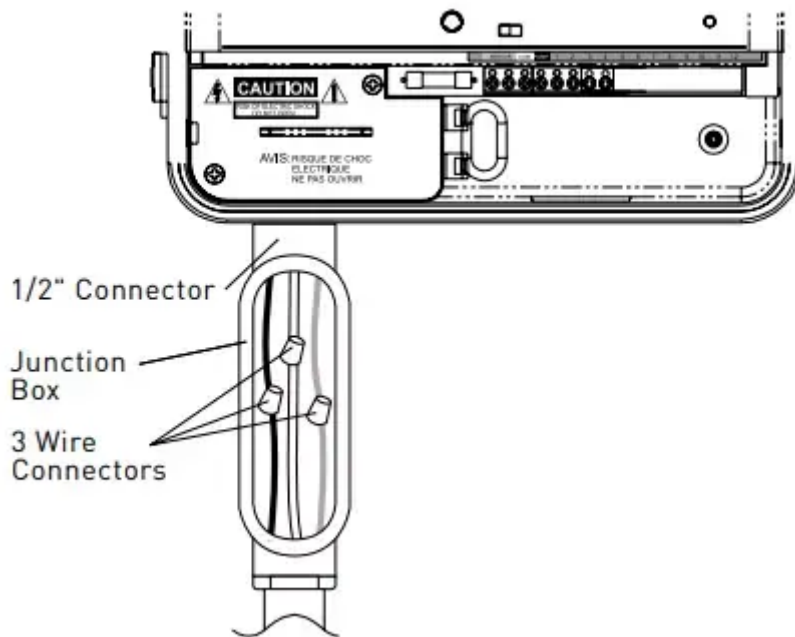

Figure 5: Using a Junction Box
Outdoor Locations - If a covered Ground Fault Interrupter [GFI] outlet is available, insert the power cord into the 110 volt outlet. If no outlet is available, the timer must have the wiring permanently installed ("see figure 5)
- Connect the junction box to the Timer using a 1/2" nipple (Junction box and nipple not included). [See Figure 5]